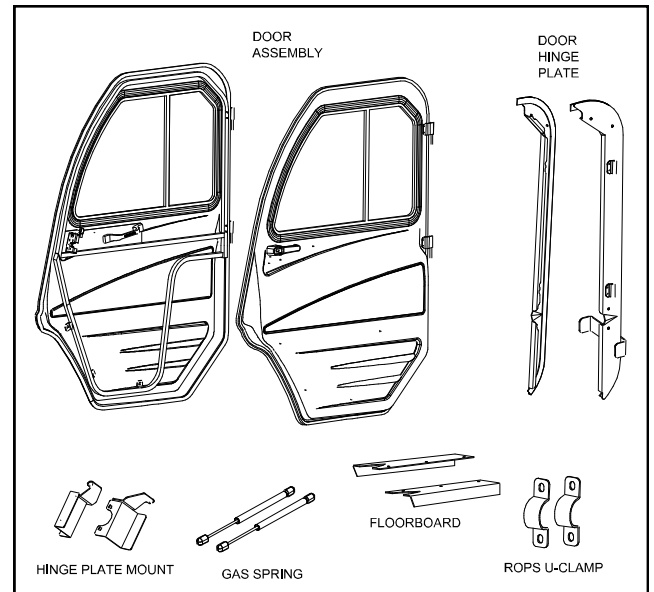
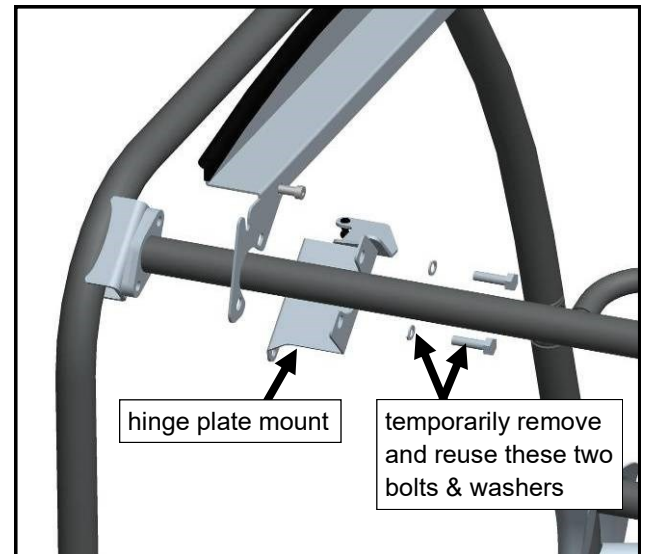

Fig. 2.1 (contents of door kit)
Fig. 2.2 (view of outside rear corner of driver's side)
2.1 Note: the hinge plate mounts shown in figure 2.1 may have already been installed in step 1.3 on page 4 during the mount installation steps. If installing a door kit at a later date than the mount kit, temporarily remove the two bolts and washers shown in figure 2.2. Loosen the bolts on the opposite side, but do not remove them. Orient and install the hinge plate mount as shown. Use caution to avoid cross threading the weldnuts. Start thread engagement by hand. Leave bolts loose for now.